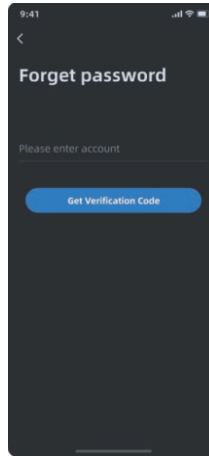

Figure 1
1)Figure 1: If you forget your password, you can reset it through "**Forgot Password**".Click "**Forgot Password**" on the login page, enter your registered account and click "**Get Verification Code**" to enter the verification code page.